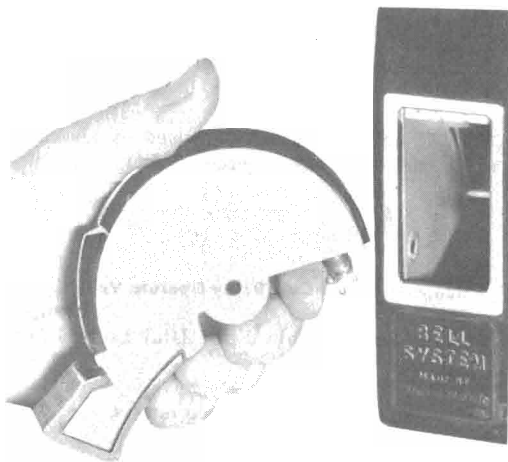

Fig. 50—Inserting Pull Bucket in Return Chute
- (2) Hold pull bucket with coin recess upward, supporting springs with fingers so springs extend slightly into chute opening (Fig. 50).